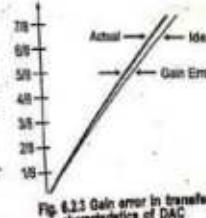

Fig. 6.2.3 Gain error in transfer characteristics of DAC
- Fig. 6.2.3 shows the gain error in transfer characteristics of DAC.